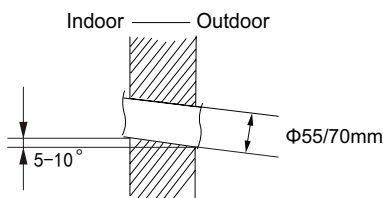

Fig.2
(2) Open a piping hole with the diameter of  $\Phi 55(70)\text{mm}$  on the selected outlet pipe position. In order to drain smoothly, slant the piping hole on the wall slightly downward to the outdoor side with the gradient of  $5\text{--}10^\circ$ . (As show in Fig.2)